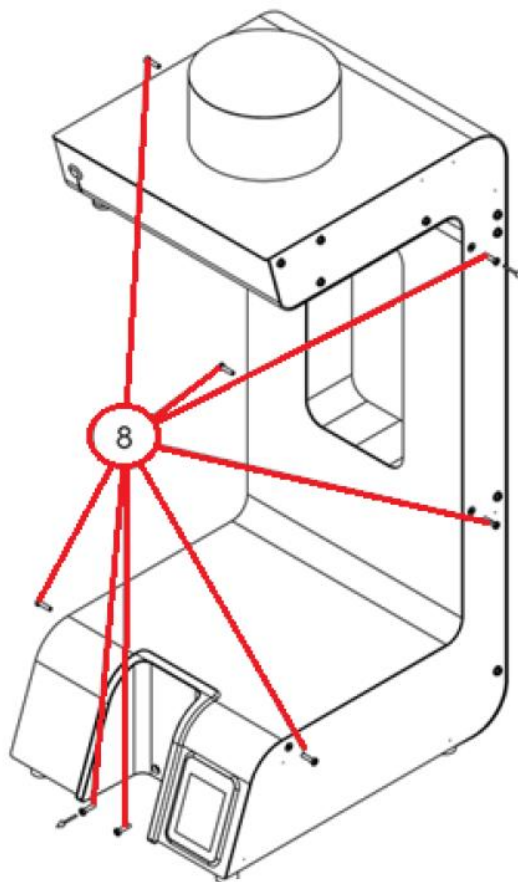

Fig 1.0
- Remove two securing screws in the drip tray as illustrated in Fig 1.0
- Remove the front s/s panel by locating and removing the 6 securing screws as illustrated in Fig 1.0 (8 screws in total, 6 side and 2 in the drip tray.)
- Secure all 6 screws once housed correctly on the machine as per fig 1.0.
- Relocate the drip tray recess and secure with the two screws as per fig 1.0.